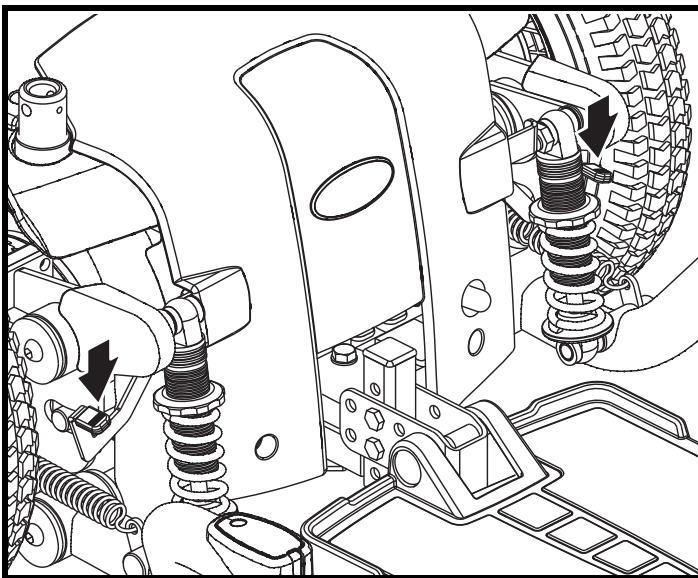

Figure 8. Freewheel Mode (Drive Disengaged)
2. Push the two levers downward to disengage the drive motors (freewheel mode). See figure 8.